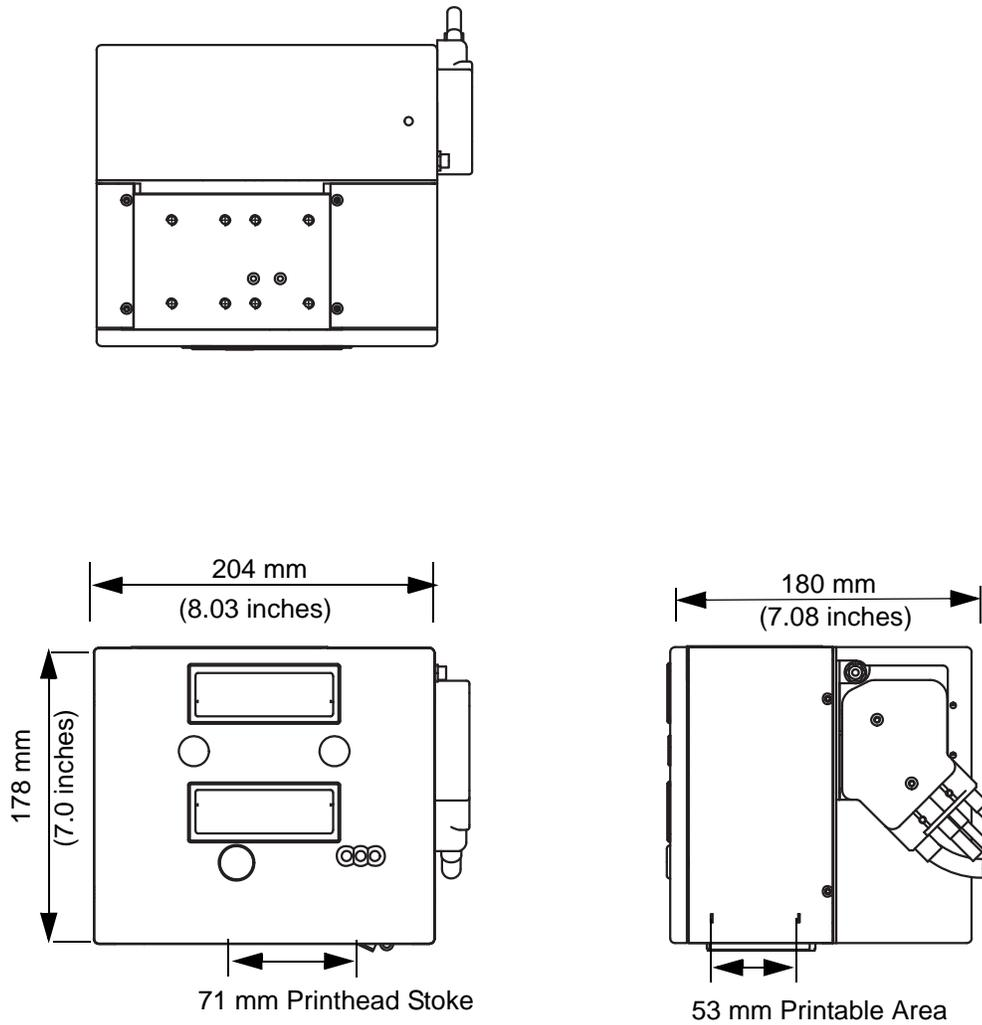

Figure 7-2: Videojet DataFlex 6420 53 mm LH Printer Dimensions
Figure 7-2 shows the dimensions of the 53 mm (LH) printer.